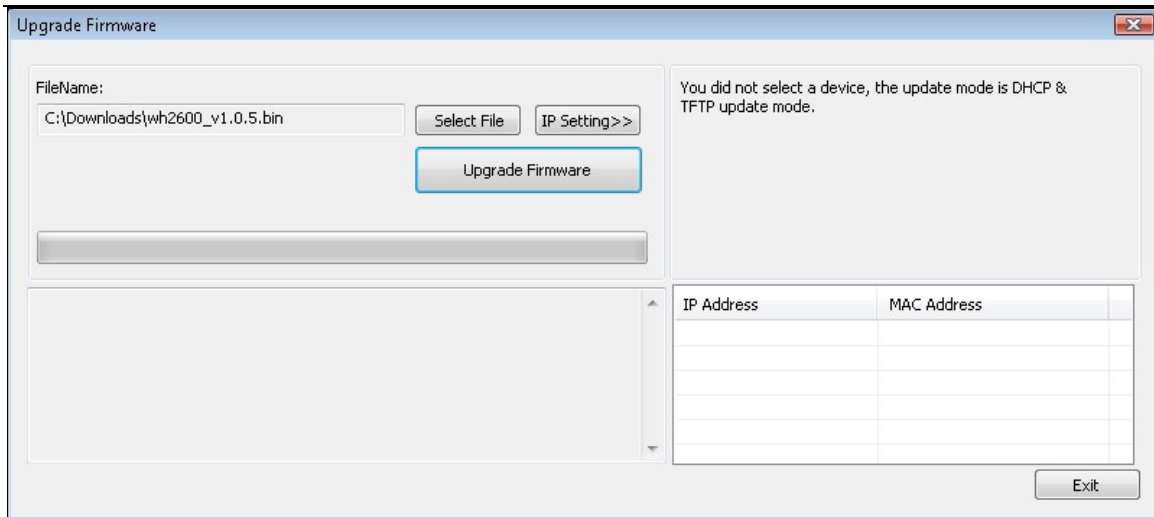
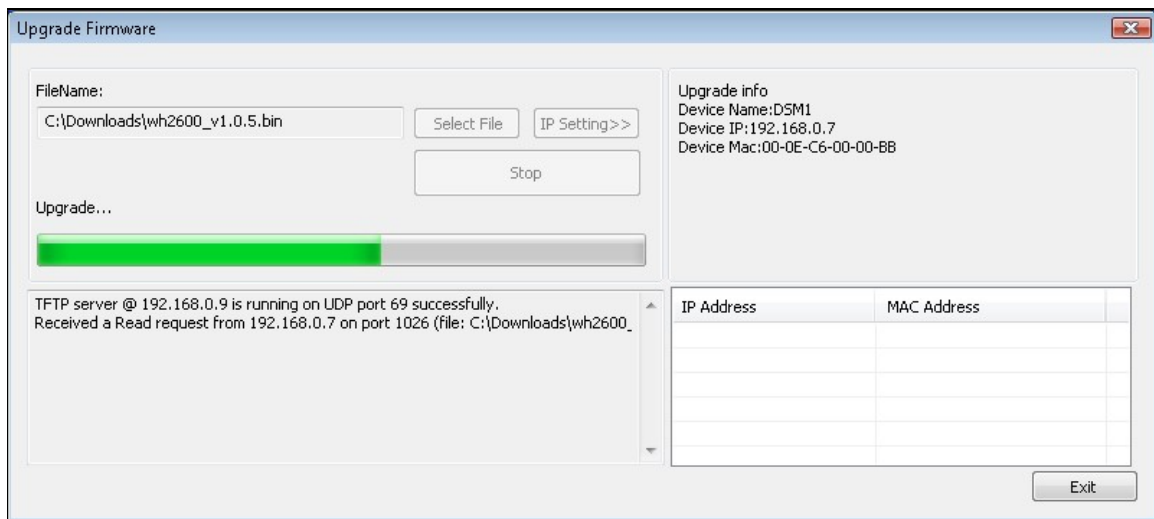
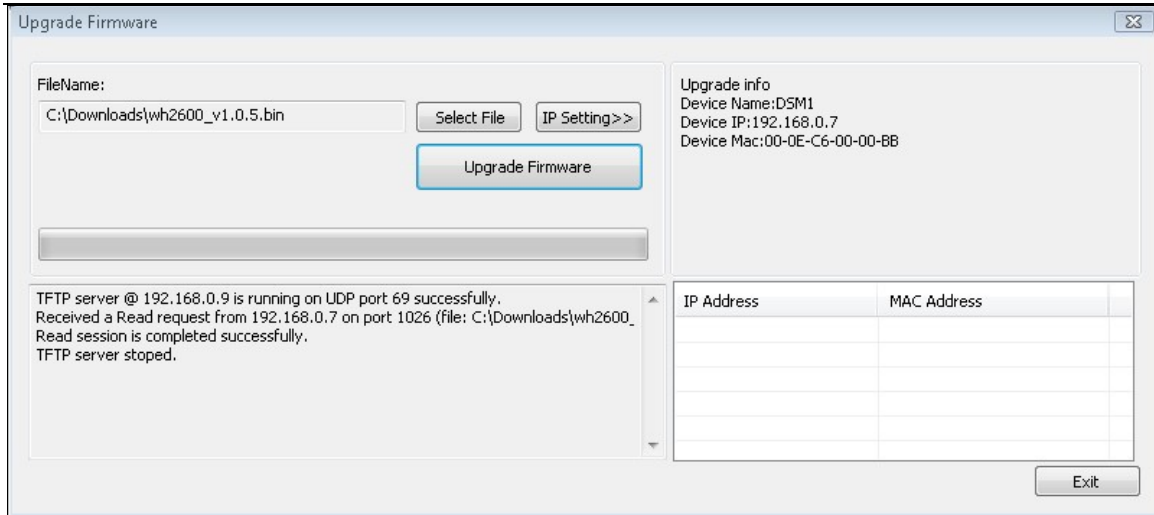

Figure 39
Figure 40
Figure 41
4. Reference Figure 39. Select the **Select File** button, and browse to the location of the file you downloaded in Step 1.
5. Select the **Upgrade Firmware** button. Reference Figure 40. The dialog box will display **Received a Read Request** from the ObserverIP module. A green progress bar will provide you with the upgrade status.
6. Once the firmware upgrade is complete, the dialog box will display **Read session is completed successfully**, as shown in Figure 41.
<p>Only the Power, Link and ACT lights are lit and the ObserverIP module does not communicate to the server.</p>	<p>The firmware will need to be reloaded.</p> <ol style="list-style-type: none"> 1. Download the latest firmware here: http://www.AmbientWeather.com/observerip.html 2. Power down the ObserverIP module but leave connected to your router. 3. Launch the IP Tools application as referenced in Section 5.7. Since the module is powered down, you will not be able to locate it on your network, but proceed anyway. 4. Select the Upgrade button. 5. Reference Figure 39. Select the Select File button, and browse to the location of the file you downloaded in Step 1. 6. Select the Upgrade Firmware button. 7. Plug in the ObserverIP module. The software will locate the device on your network and begin the update. Reference Figure 40. The dialog box will display Received a Read Request from the ObserverIP module. A green progress bar will provide you with the upgrade status. DO NOT OPERATE THE MOUSE OR KEYBOARD WHEN UPGRADING to prevent interruption of the upgrade. 8. Once the firmware upgrade is complete, the dialog box will display Read session is completed successfully, as shown in Figure 41. 9. Wait about one minute for the ObserverIP module to reboot. You can now Exit the upgrade window, and access the module again, as referenced in Section Finding the ObserverIP from your computer All of the lights should be on except the Server light (you will need to reprogram the Wunderground.com settings).